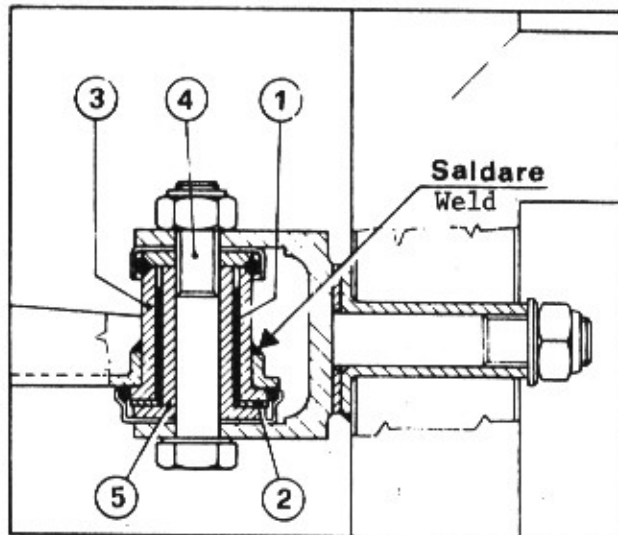

Fig. 64 Side View of Oscillating Arms to Chassis Attachment Bushings
- Remove the internal elastic bushing 1 (fig. 64) of each bearing and press in a new one without rough handling or adding oil or grease.